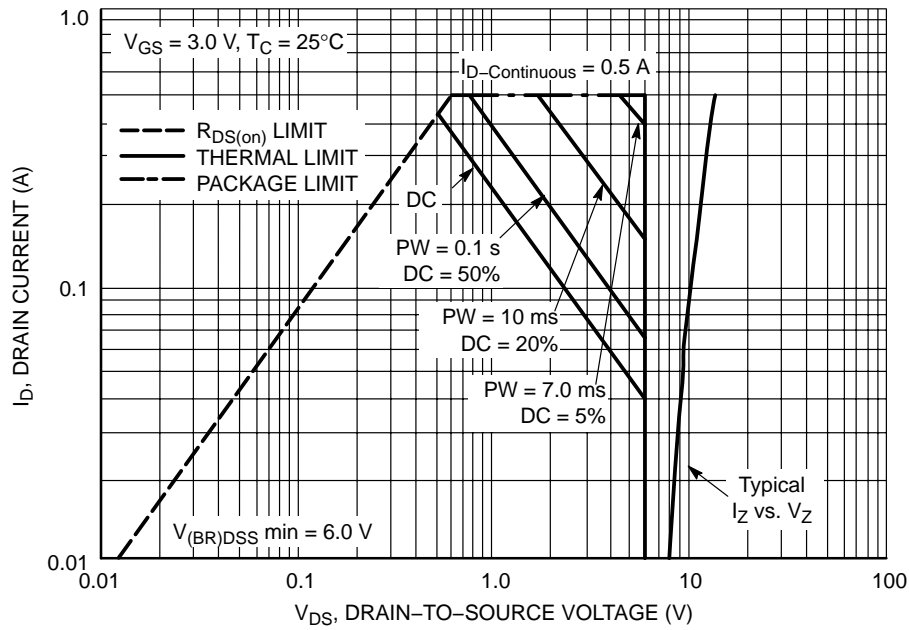

Figure 10. Safe Operating Area
3. Use Figures 10 and 11 with the SOA notes to insure that instantaneous operation does not push the device beyond the limits of the SOA plot.